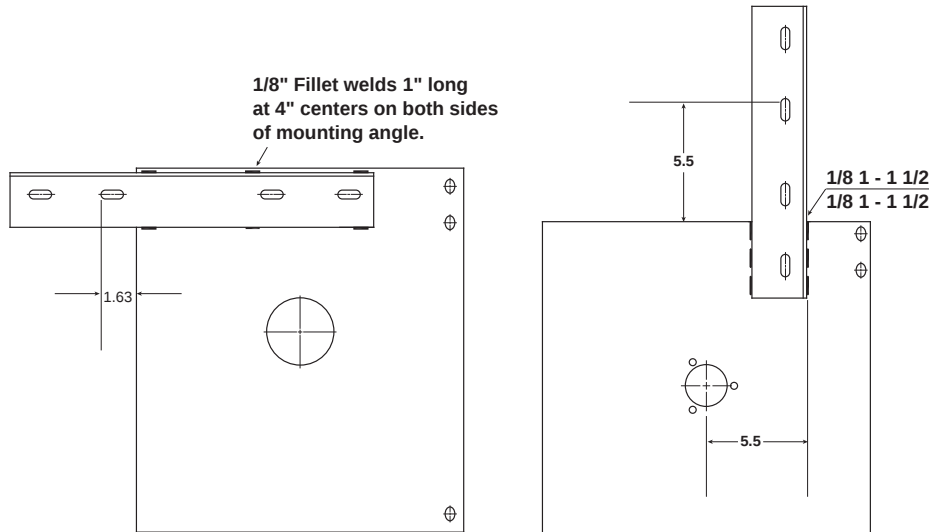

FIGURE 7
STEP 4 Prepare to weld hoist mounting angle to drive headplate bracket. Select a location where welding will not cause a fire. Post a fire guard. See Figure 7 for Front of Headplate mount. See Figure 8 for Top of Headplate mount.
Clamp the angle 1/4" below top of drive headplate bracket with slot positioned as shown in Figure 7. Weld angle to headplate with 1/8" fillet welds one inch long, 4" on centers on both sides of angle. Clamp angle to headplate as shown in Figure 8. Weld angle to headplate with 1/8" fillet welds one inch long, 1-1/2 inch on centers both sides of angle.